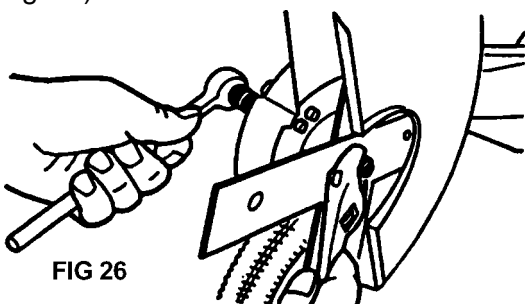

FIG 26
2. Through dust cover hole, place 14mm (9/16") socket and place 18mm (3/4") wrench on blade nut (Fig. 26).